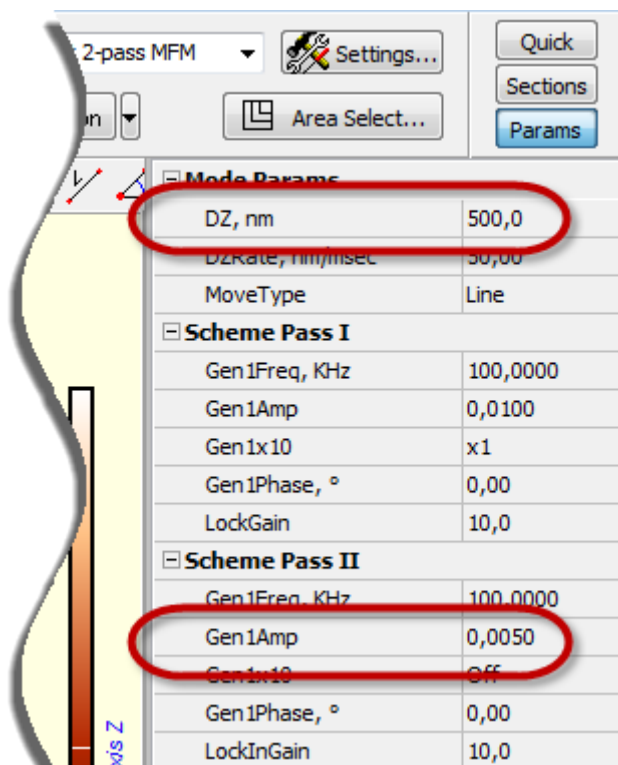

Fig. 9-6. Additional Scanning Parameters panel
2. Observe quality of the acquired image and vary the sample-probe distance. This needs modification of the **DZ** parameter in the **Mode Params** group (Fig. 9-6).
3. Observe quality of the acquired image and vary the generator output amplitude. This needs modification of the **Gen1Amp** parameter in the **Pass II** group (Fig. 9-6).